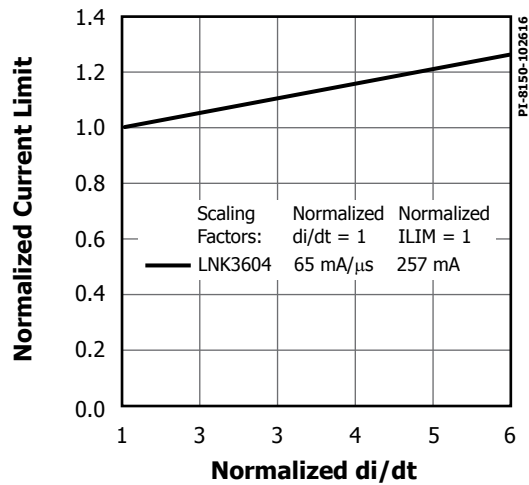

Figure 22. Default Current Limit vs. di/dt.
- D. For current limit at other di/dt values, refer to Figures 22, 23, 32 and 33.